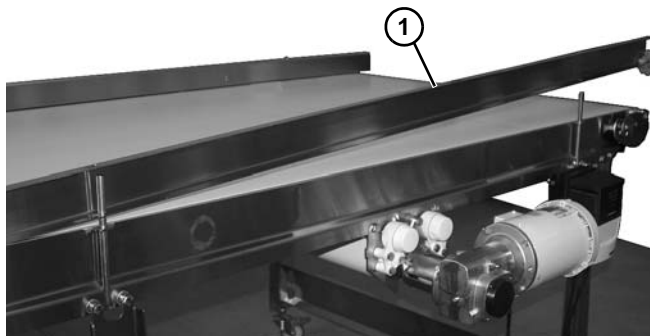

Figure 10
3. Remove all guiding (**Figure 10, item 1**), if equipped.